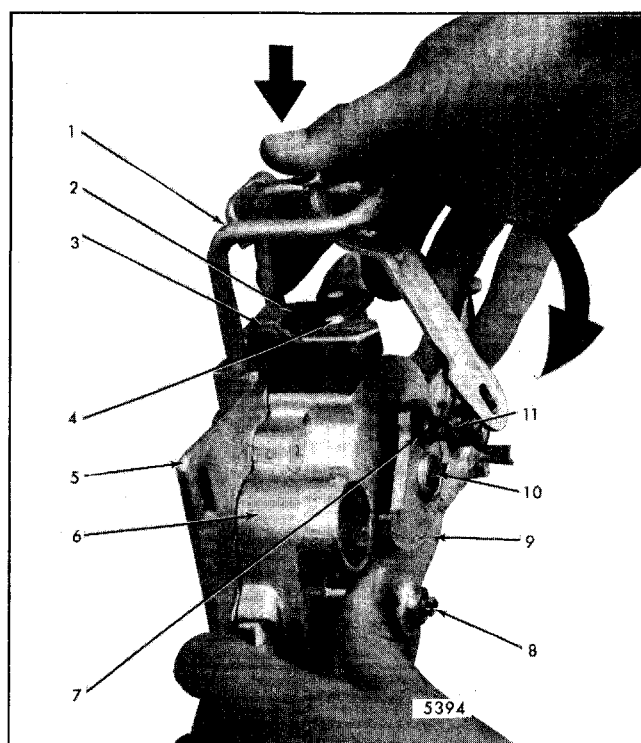

Fig. 7-42-Closing Unit Link Installation
8. While lowering striker into striker guides, rotate link and cover assembly as shown in Figure 7-42 until slotted hole in lower end of link slips onto the output cam pivot pin.